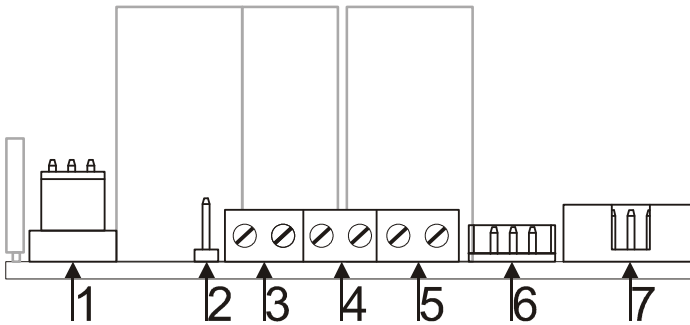

Figure 2
**Bridged setup:** Connect the module to your pc by a USB cable and select where the master module is placed, master module is left or right audio or functions as a sub woofer. When you use 2 AKB-210DSP for a stereo bridged setup you will also have to initialise the second (slave) module, see example in the last chapter of this document. In bridged mode the jumper (see Figure 2) must be placed and the speaker must be connected between J4 speaker+ and J2 speaker+. In all other setups the jumper is not placed! When you want to set the master as right channel with analogue input you will have to change the input cinches, left in the right cinch and right in the left. This is because only the right channel is linked trough, so if you want the left channel to be linked trough you just switches left and right. For digital sources the left and right channel are linked.